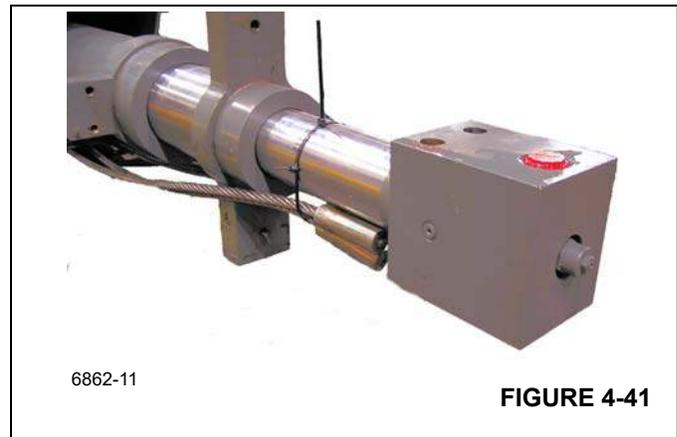

FIGURE 4-41
9. Position the sheave end of the Telescope Cylinder at the rear of the Fly Section, with the port block turned as shown (Figure 4-41).